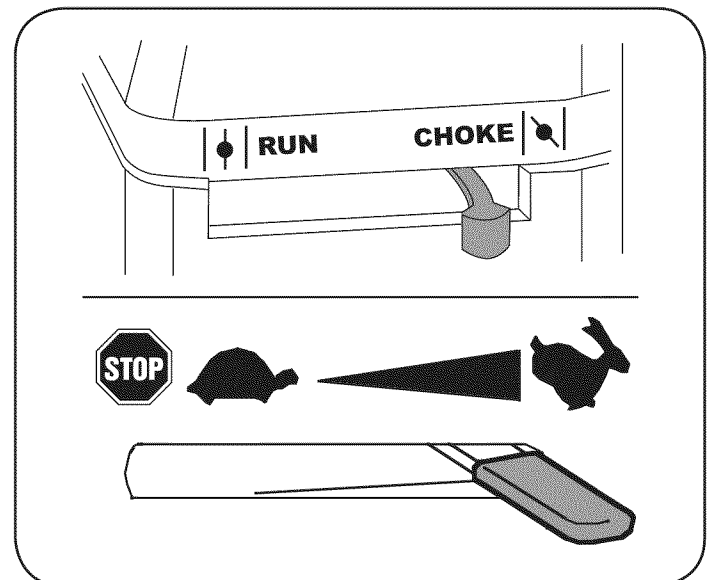

Figure 13
5. Move the choke lever on the engine to CHOKE  position. (A warm engine may not require choking.) See Figure 13.
6. Move throttle control to START/RUN (Rabbit)  position. See Figure 13.